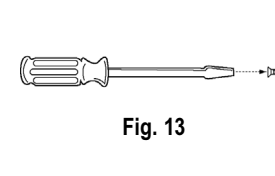

Fig. 13
- 3) Install the mounting screws into the wall, leaving about 1/8-inch (3 mm) gap between the screw heads and the wall—see **Figure 13**.